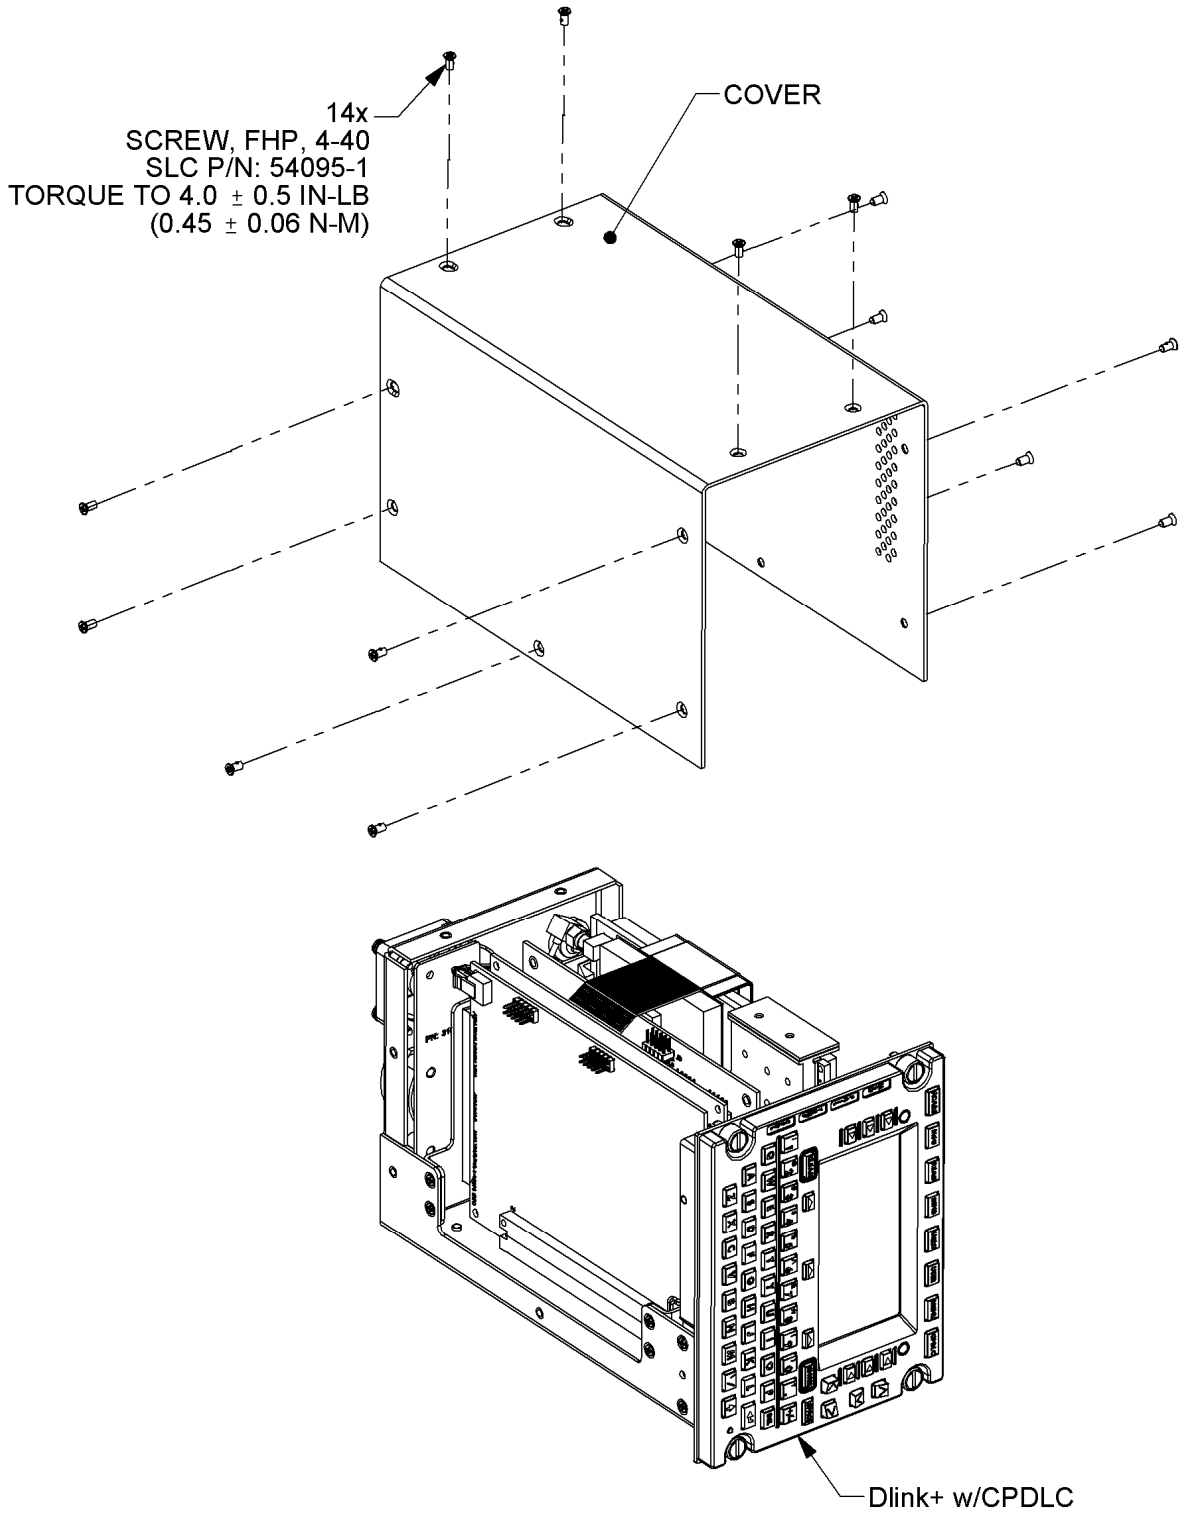

Figure 1. Cover Removal/Attachment
- A. Remove the cover from the Dlink+ w/CPDLC by removing 14 screws. See **Figure 1. Cover Removal/Attachment.**
- V. Reattach the cover to the unit with 14 screws torqued according to **Figure 1. Cover Removal/Attachment**. It may be necessary to remove the 11-pin cable and dummy load for this operation. If so, reattach them after the cover is secured.